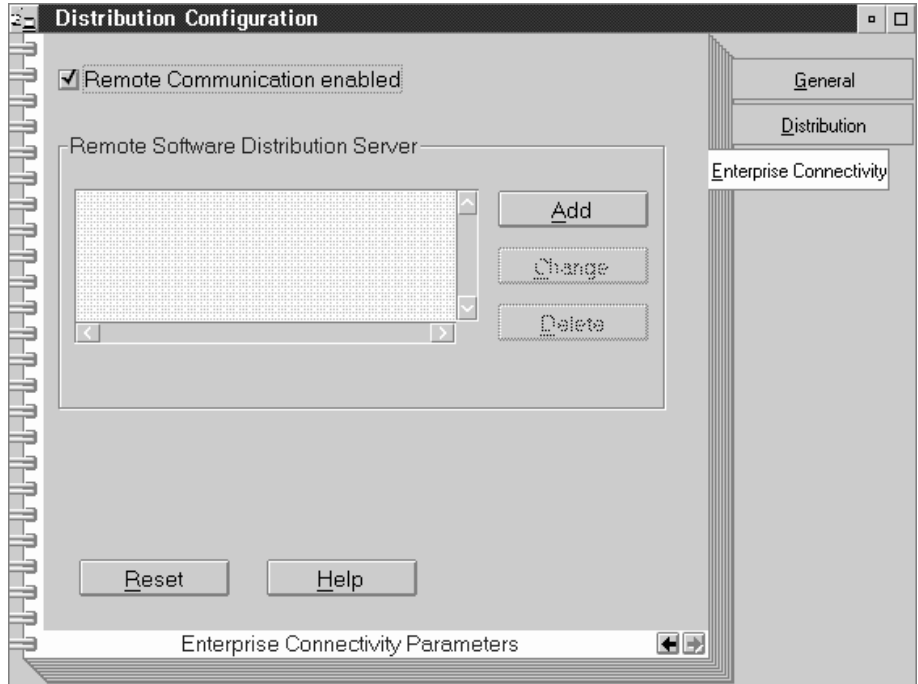

Figure 15. TME 10 Software Distribution Enterprise connectivity parameters
- 9 If you plan to connect to NetView DM for MVS or TME 10 Software Distribution for AIX, use the last page of the Distribution Configuration notebook to select parameters related to enterprise connectivity, as shown in Figure 15 on page 60.